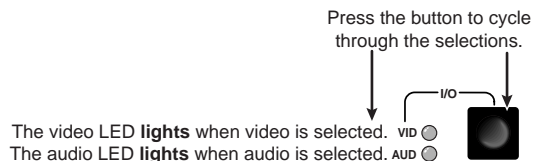

Figure 3-23 — Select video and audio
- Audio/video switchers only** — Select both video and audio for viewing (figure 3-23).